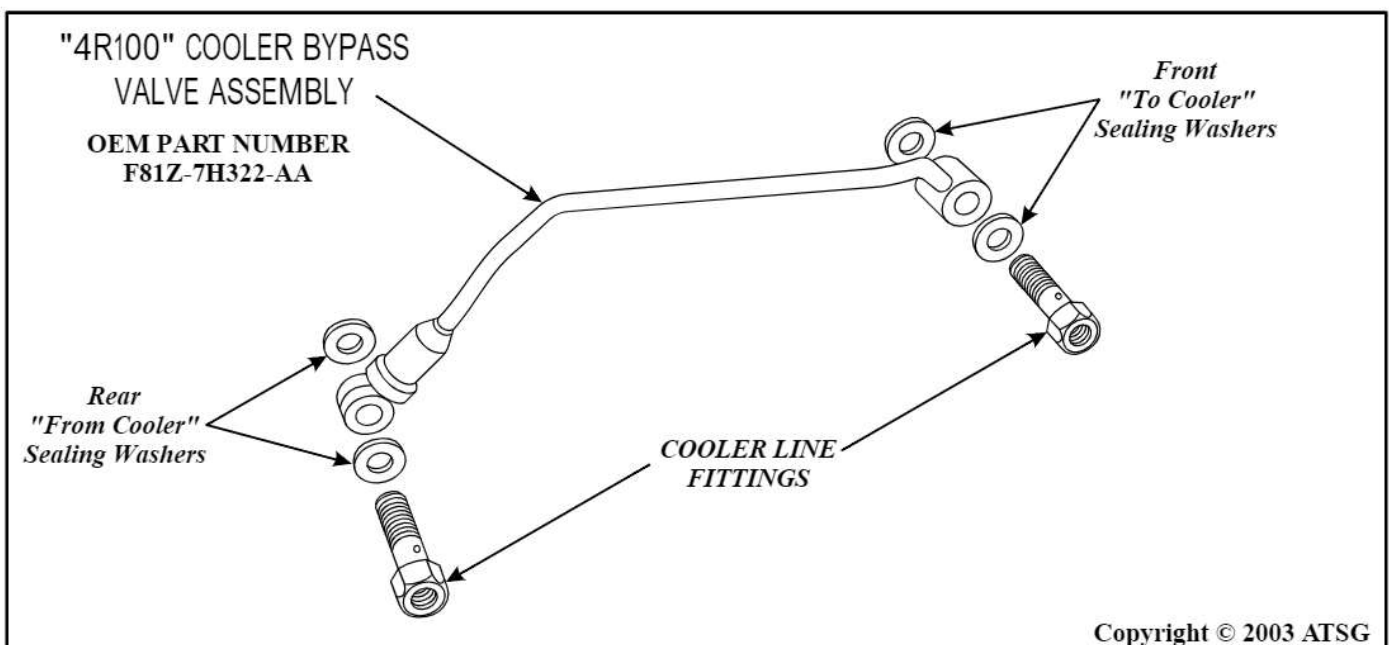

Figure 202
6. Install the cooler bypass valve with the sealing washers positioned as shown in Figure 202, and install threaded cooler line case fittings.